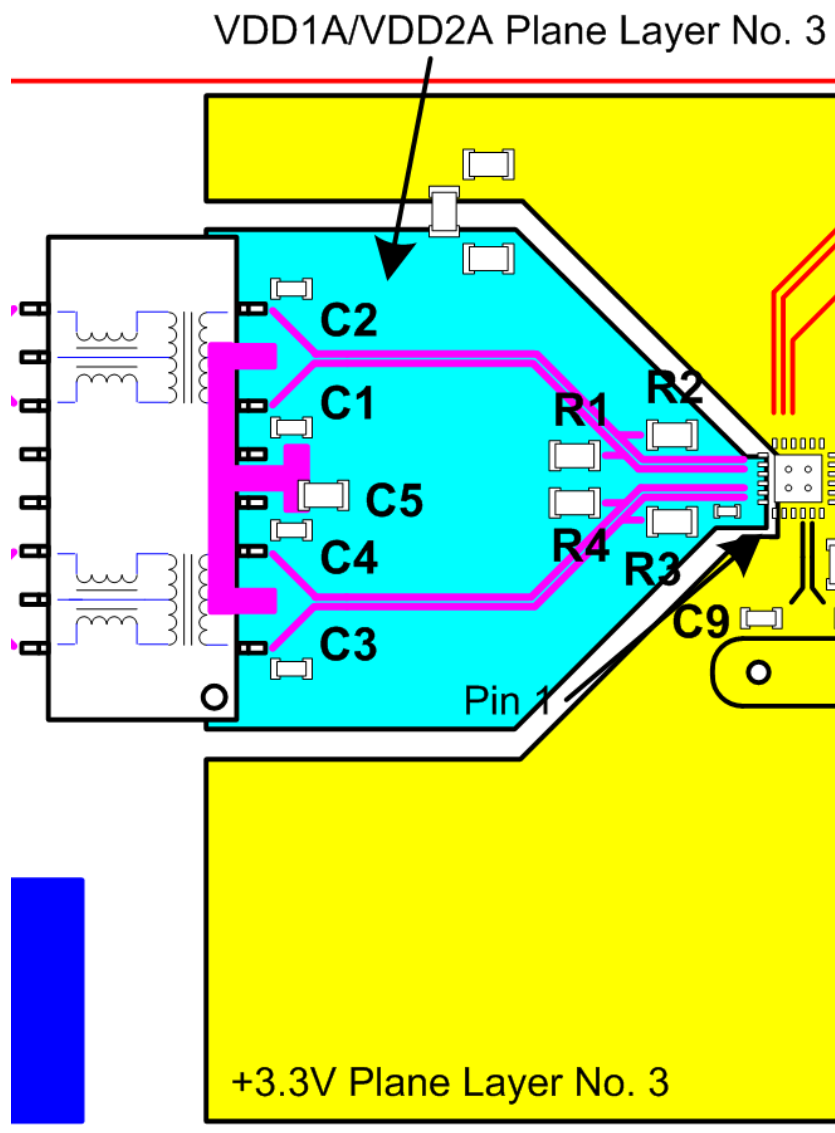

Figure No. 2
6. Refer to Figure No. 2 for VDD1A/VDD2A power plane details.